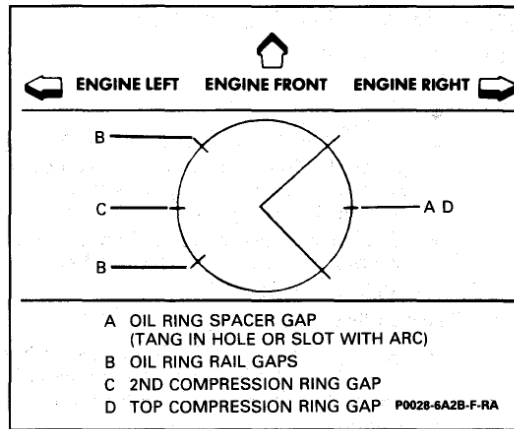

Figure 39 Piston Ring Gap Locations
- In order to provide an effective compression seal, the ring gaps must be staggered (Figure 39).